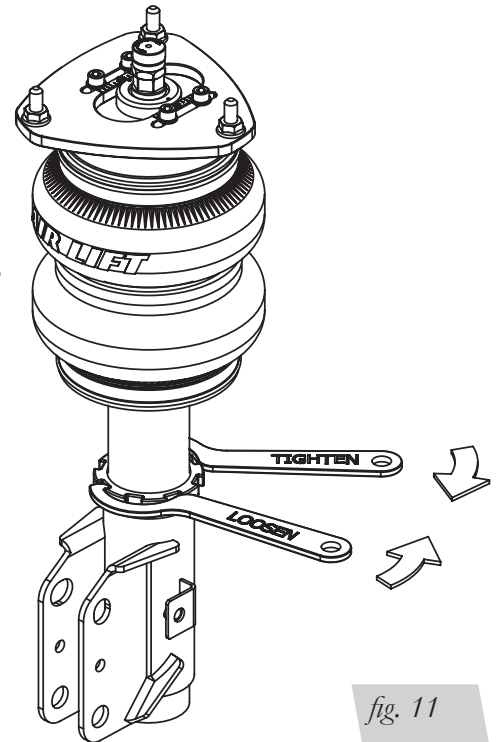

fig. 11
3. Using the supplied spanner wrench, loosen the locking collar (Fig. 11).